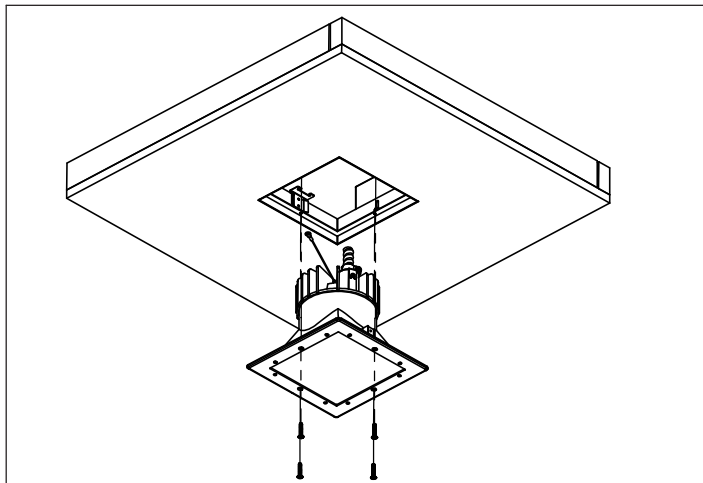

Figure 7
7. Raise Downlight Module Assembly and fasten into Housing Assembly. (Fig. 7)